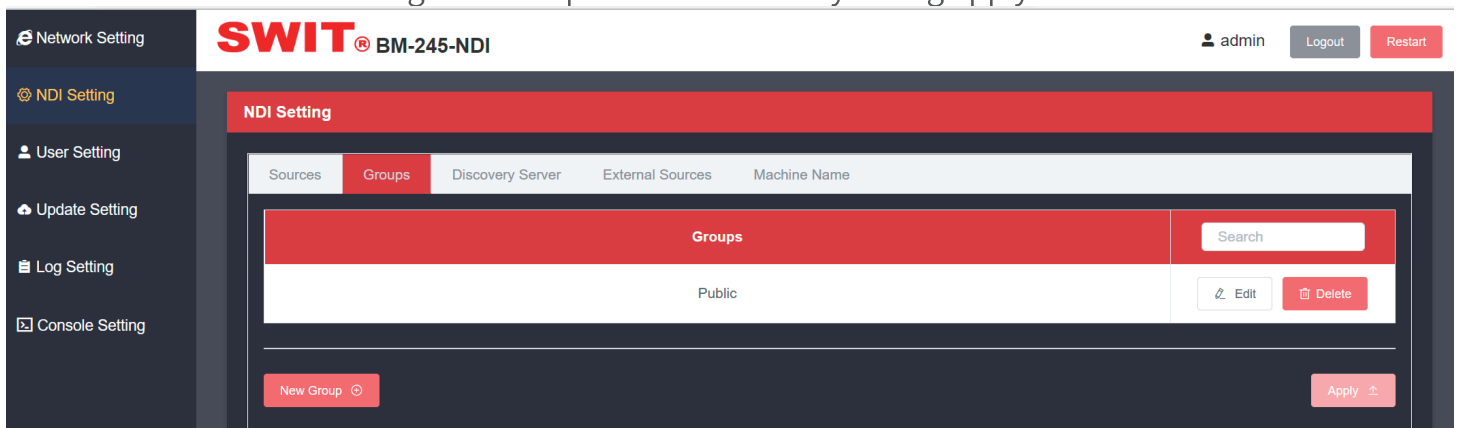

Fig.4
6. In the Search box, you can Search for an NDI group based on the known NDI group name. If the current group is empty, the Groups switch generates a Public group by default. See Figure 4 below for details . All changes to Groups must be made by hitting Apply.